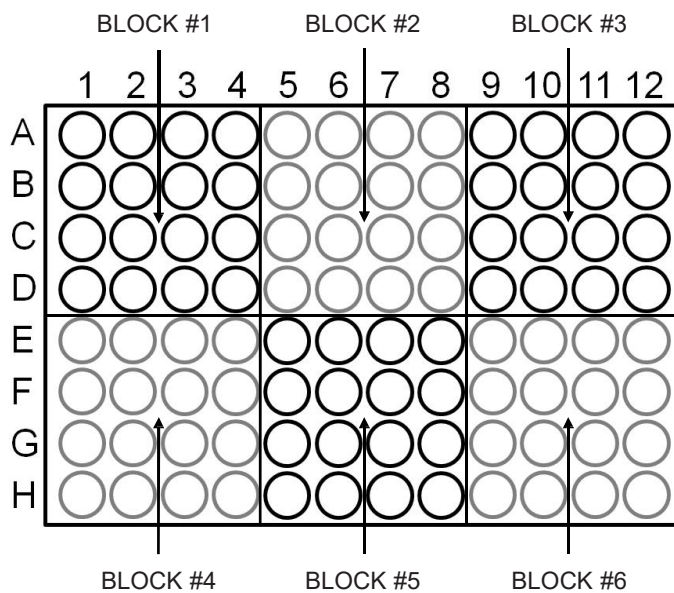

Figure 10. Block layout of 96-well model.
- 2. The temperatures of all BLOCK offset are based on BLOCK #1. If you press F2:AUTO to set gradient temperature, each BLOCK will automatically add 4°C based on the preceding BLOCK. Prior to pressing F3:AVG. users need to enter BLOCK #6 setting, and the screen will show the calculated temperature gradient from BLOCK #1 to BLOCK #6 as show in Figure 10. This reflects the variation of the temperature from BLOCK #1 (coolest) to BLOCK #6 (hottest).